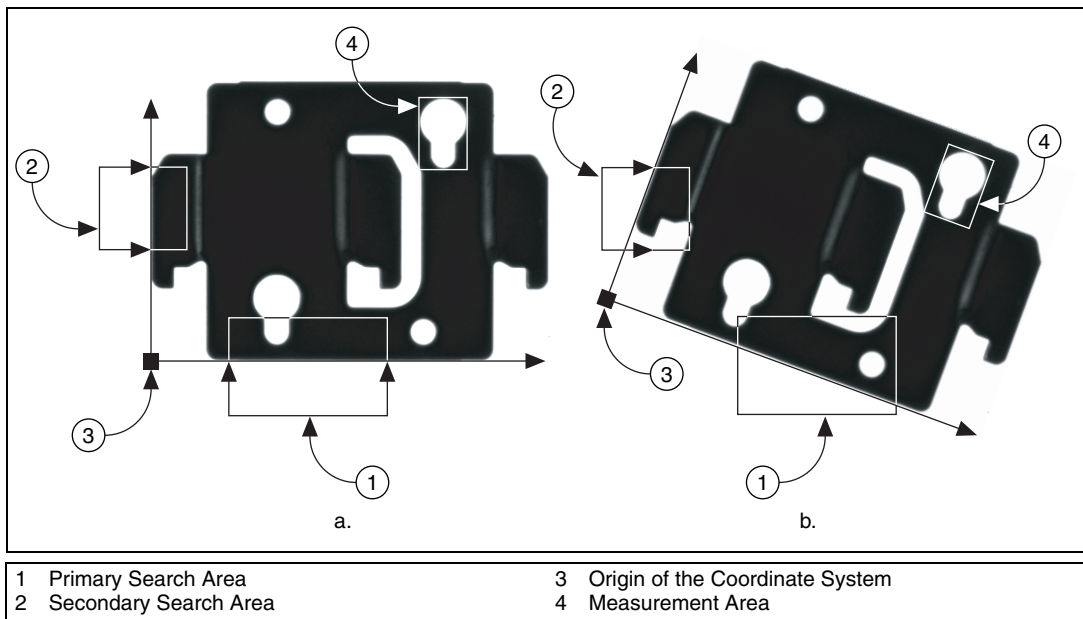

Figure 5-3. Locating Coordinate System Axes with Two Search Areas
- b. If you use `imgqFindTransformRects2()`, specify two rectangular objects, each containing one separate, straight boundary of the object, as shown in Figure 5-3. The boundaries cannot be parallel. The regions must be large enough to include the boundaries in all the images you want to inspect.